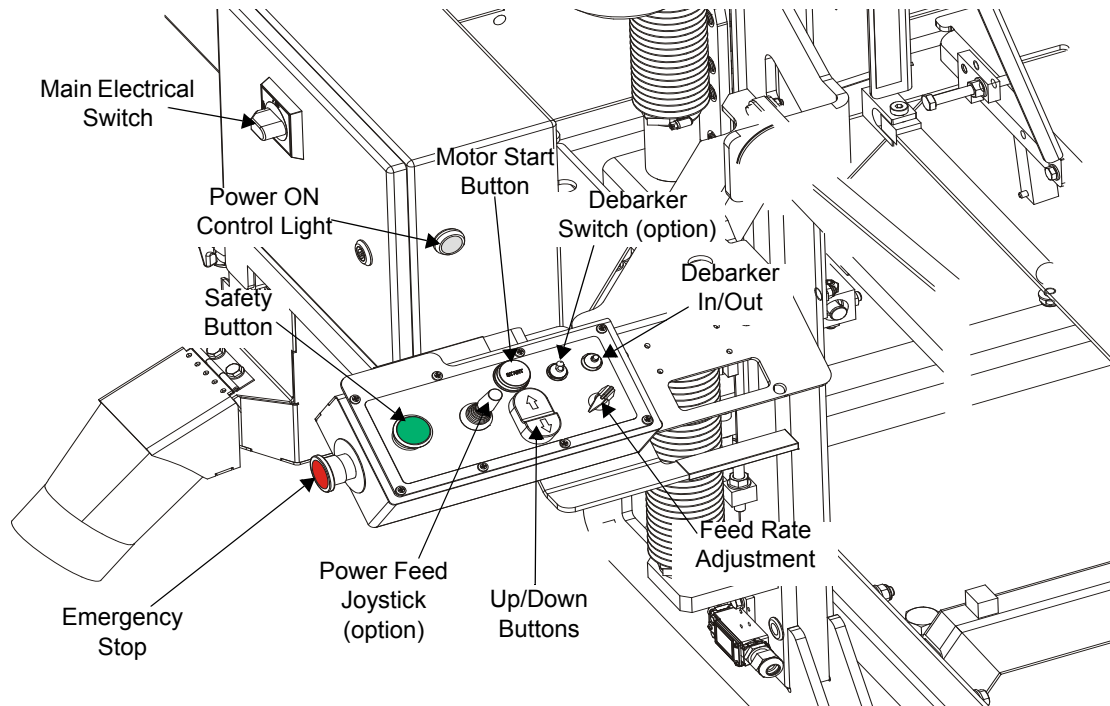

FIG. 3-17
**See Figure 3-17.** To engage the blade, perform the following steps: